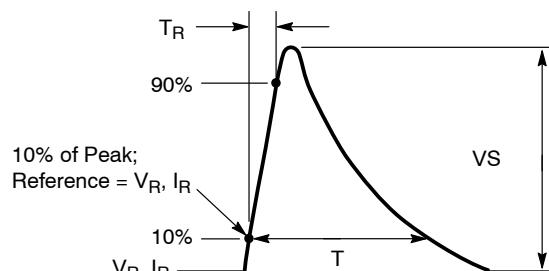

Figure 3. Load Dump Waveform Definition
4. Nonrepetitive load dump suppressed pulse per Figure 3.